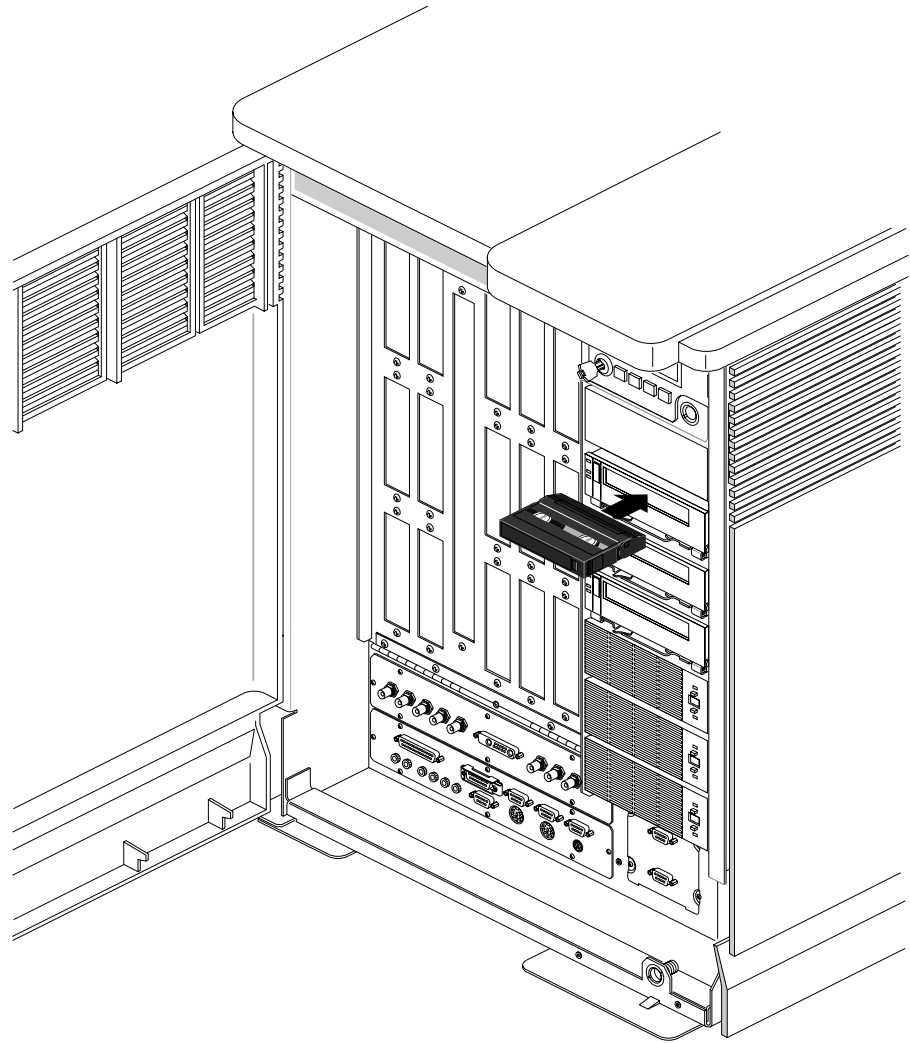

Figure 1-7 Loading a Data Cartridge
2. Gently push the data cartridge as shown (in Figure 1-7) until the load mechanism pulls the cartridge into the drive.
3. Gently push the data cartridge into the tape drive (see Figure 1-7 in Chapter 1) until the load mechanism pulls the data cartridge into the tape drive.